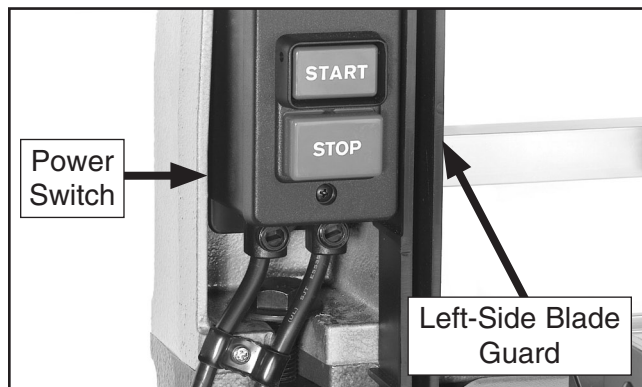

Figure 3. Power switch and left side blade guard.
3. Remove the left-side blade guard shown in **Figure 3**.
4. Remove the power switch assembly shown in **Figure 3** and set it aside.